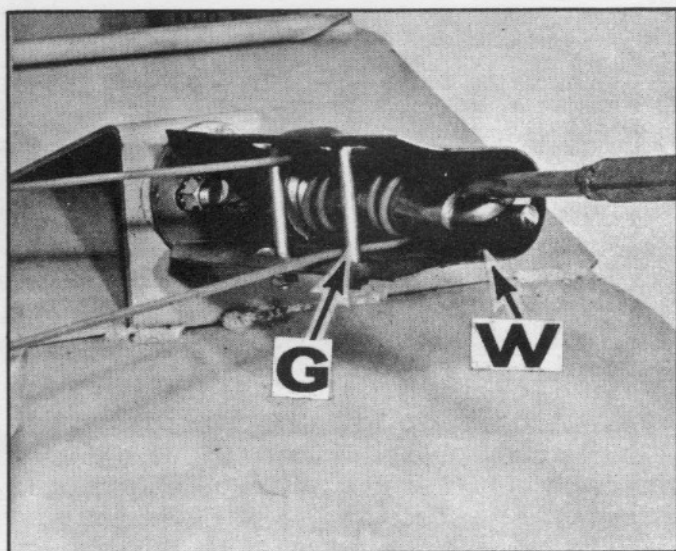

Fig. 11
Slide both ends of the cable between U-bolt (G) in chute control bracket (W) (Fig. 11). Then loop cable over discharge chute opening.